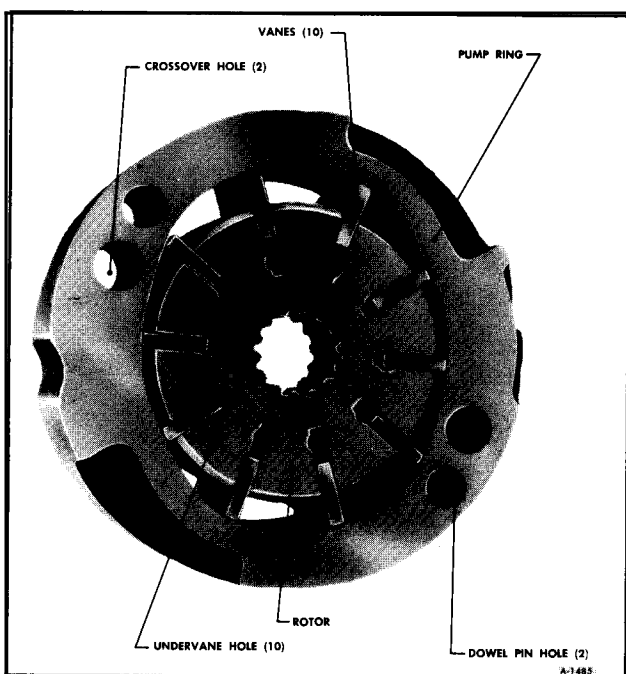
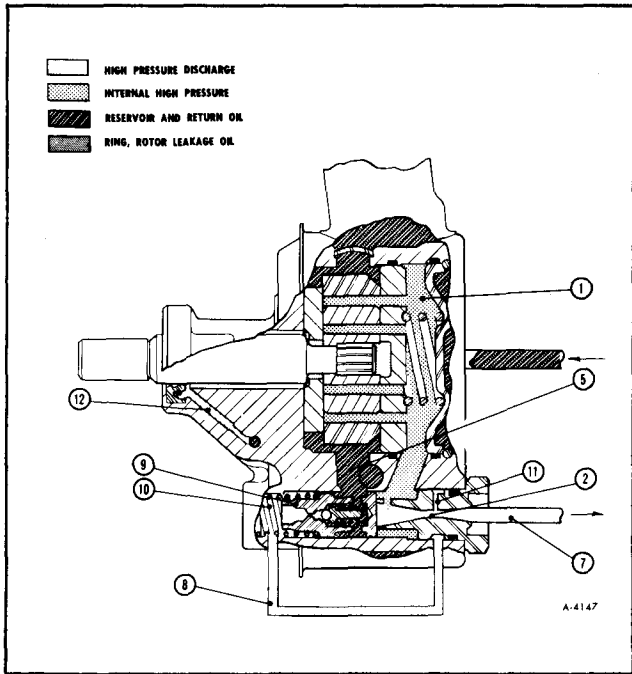

Figure 3—Pump Ring and Rotor
Figure 4—Slow Cornering
The thrust plate (figure 2) is located by two dowel pins on the inner face of the housing. This plate has four central blind cavities for undervane oil pressure. The two outer blind cavities direct discharge oil through the two cross-over holes in the pump ring (figure 3), through the pressure plate, and into cavity 1 (figure 4). The two outside indentations in the thrust plate are for intake of the oil from the suction part of the pump.
The pump ring (figure 3) is a plate having the mating surfaces ground flat and parallel. The center hole is a two lobed cam in which the rotor and vanes operate. The ring is placed next to the thrust plate, and located with the same dowel pins.
connect from cavity 1 (figure 4) to supply undervane oil pressure. The two outer ports pass oil under discharge pressure to cavity 1. The two indentations are for oil intake from the suction part of the pump, cavity 7 (figure 4) into the rotor.
The drive shaft is fitted with a pulley and is belt driven from the crankshaft. The rotor is loosely splined to the drive shaft and secured with a retaining ring. It is located centrally within the ring and between the thrust and pressure plates. The ten vanes are mounted in radial slots in the rotor (figure 3).
As the drive shaft turns the rotor, the vane tips follow the inner cam surface of the pump ring, moving outward and inward twice during each revolution. This results in a complete pumping cycle every 180 degrees of rotation (figure 3). Oil is moved in the spaces between the vanes. As the vane tips move outward, oil is sucked into the intervane spaces through four suction ports in the pressure and thrust plates. The pressure of the oil is raised, and the oil is discharged from the pump ring, as the vane tips move inward. High pressure oil discharges into cavity 1, (figure 4), through two open ports in the pressure plate, and through two blind ports in the thrust plate, which are connected to cavity 1 by the cross-over holes in the ring. A portion of this oil is circulated through the central port system in the pressure plate, forcing the vanes to follow the cam surface of the ring. The ring-rotor leakage oil (12) is used for bushing lubrication and then bled to the reservoir.
### Slow Cornering (Figure 4)